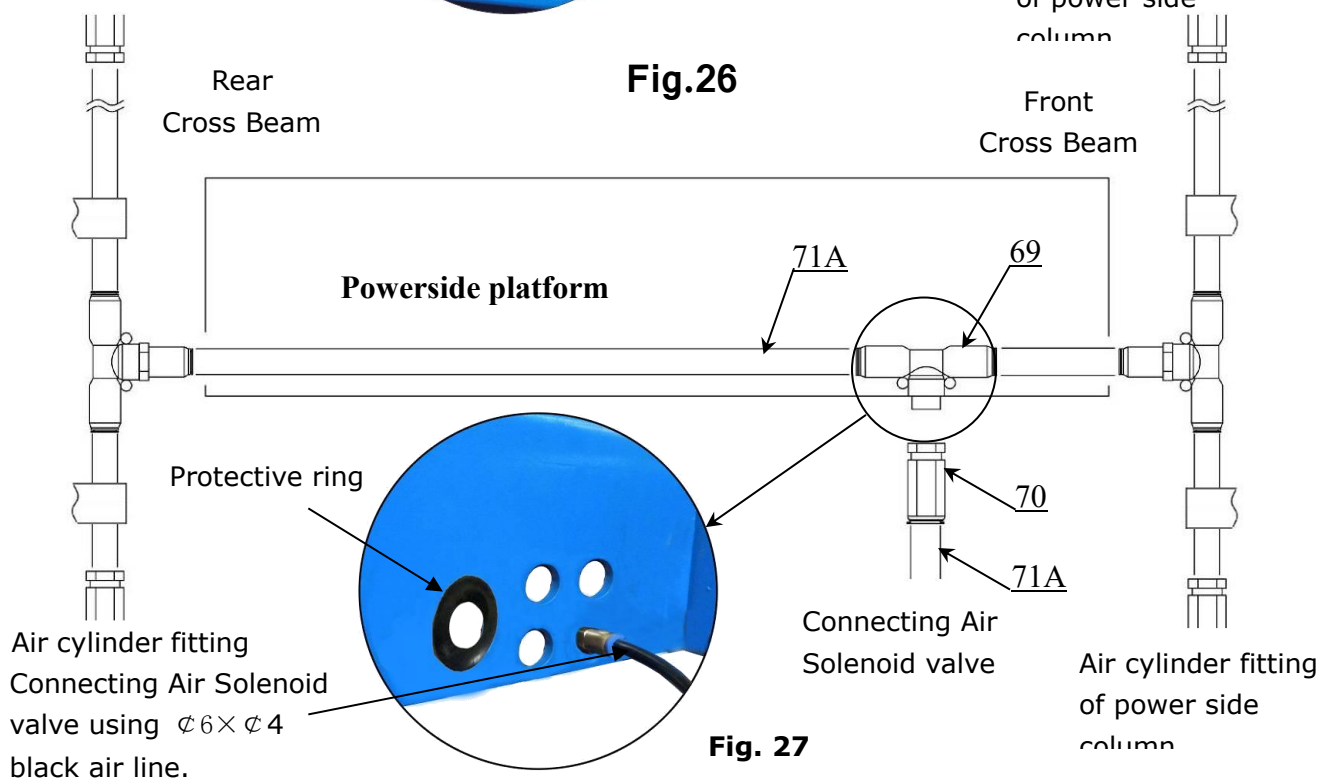

Fig. 27
(See Fig.27)
3. Connecting air solenoid valve using $\phi 6 \times \phi 4$ black air line (See Fig. 27)